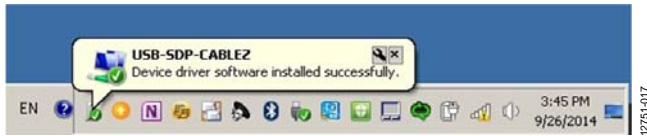

Figure 3. **Device driver software installed successfully** Notification
1. Attach the USB-SDP-CABLEZ I²C dongle to the PC USB port. The operating system automatically finds the new device (USB-SDP-CABLEZ I²C dongle), and a desktop alert in the notification area confirms that the driver software installed successfully (see Figure 3).